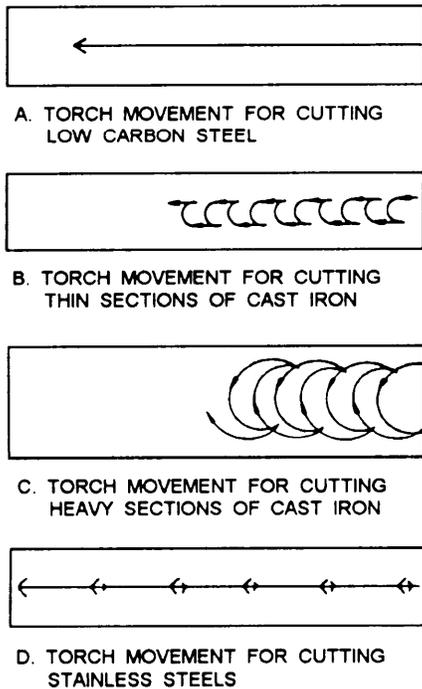

Figure 8-23.—Manipulation of the oxyacetylene cutting torch.
**TORCH MOVEMENTS.**—For most oxyacetylene cutting, the torch is moved steadily forward along the line of cut, as shown in view A of figure 8-23. Metals that are difficult to cut often require special torch movements. For example, the oscillating movement, shown in view B of figure 8-23, is suitable for cutting thin sections of cast iron; view C shows the oscillating movement that is best for cutting heavier sections of cast iron